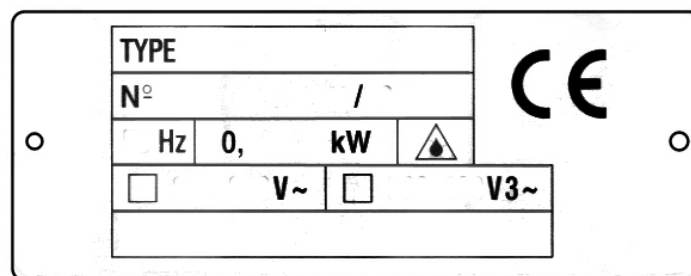
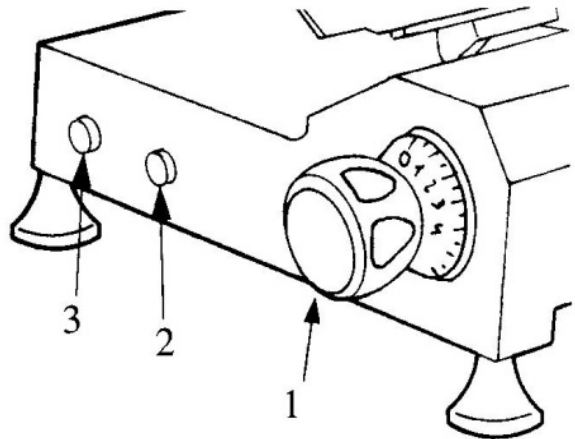

Figure 5 - Data plate - Serial number
Figure 11- Location of the controls
At this point, ensure that the earthing system is in perfect working order. Also check that the type of current indicated on the identification plate (Fig. 5) is consistent with the voltage (V) and frequency (Hz) of the power line.
Connect the slicing machine to the 400 Volt 50 Hz three phase mains using a CEI plug (red), interposing a 10A,  $I_{\Delta n} = 0.03 \text{ A}$  RCD/circuit breaker. At this point, ensure that the earthing system is in perfect working order. Also check that the type of current indicated on the identification plate (Fig. 5) is consistent with the voltage (V) and frequency (Hz) of the power line. Before connecting the machine permanently to the three phase supply line, check the direction of rotation of the blade by briefly pressing the start button (ON) (Fig 11) then pressing the stop button (OFF) immediately afterwards.
1. press the start button (ON) and the stop button (OFF) (Fig. 11);